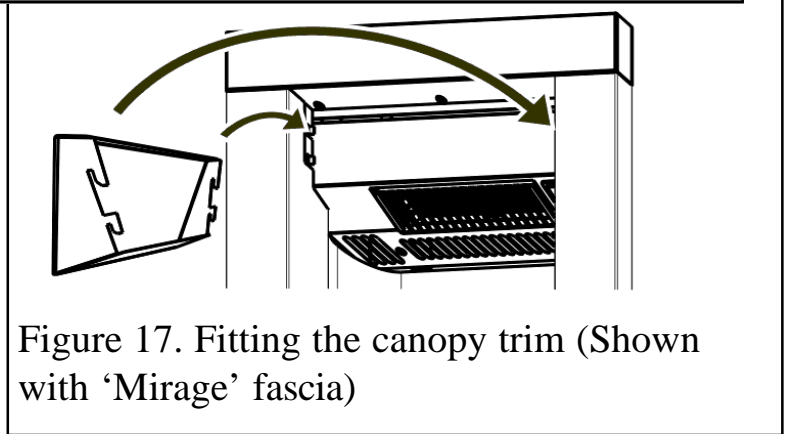

Figure 17. Fitting the canopy trim (Shown with 'Mirage' fascia)
2. Supplied in the fascia pack is a canopy trim. Hang this at the top of the fascia (See figure 17).
1. Supplied in the fascia pack is a canopy trim. Hang this at the top of the fascia (See figure 17).